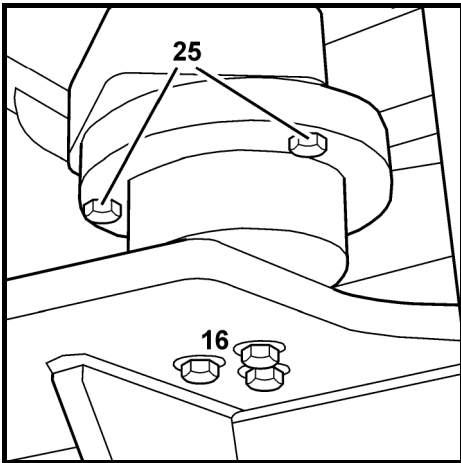

Fig. 52
This screw (Fig. 52, pos. 16 and 25) are of size M16 and must be torqued to 280 Nm (206 ft.lbs).